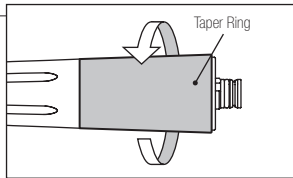

Fig. 10
- 1) Loosen and Remove the taper ring at the rear of the handpiece. (Fig. 10)